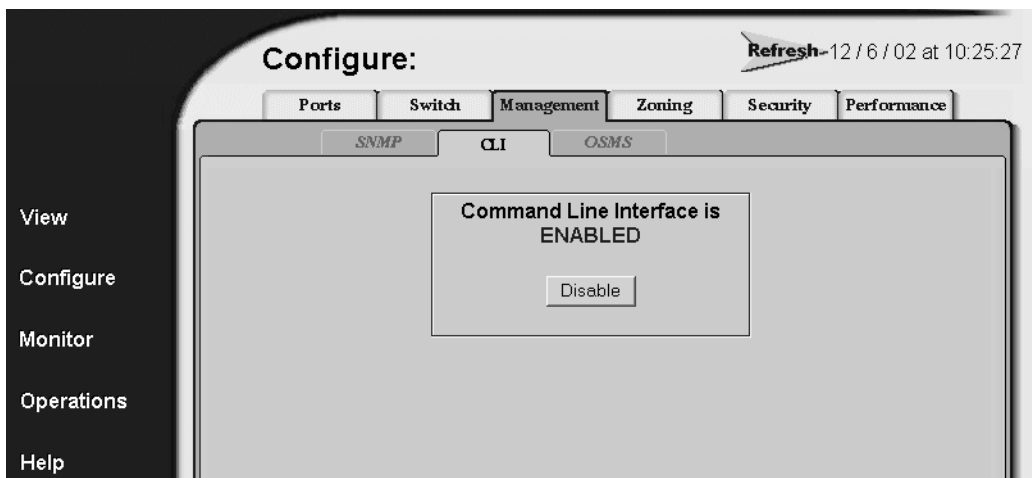

Figure 22: Management page—CLI tab
1. Choose **Configure** > **Management** > **CLI** to display the **CLI** tab (Figure 22).